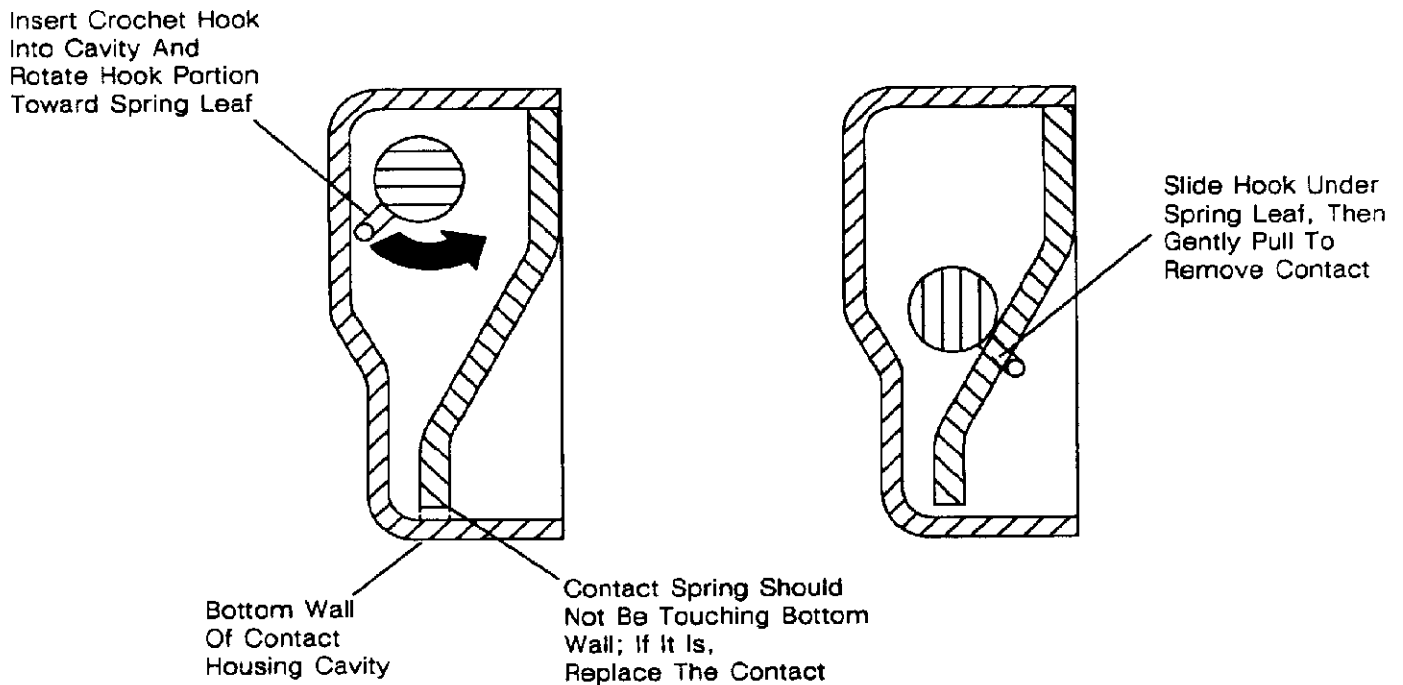
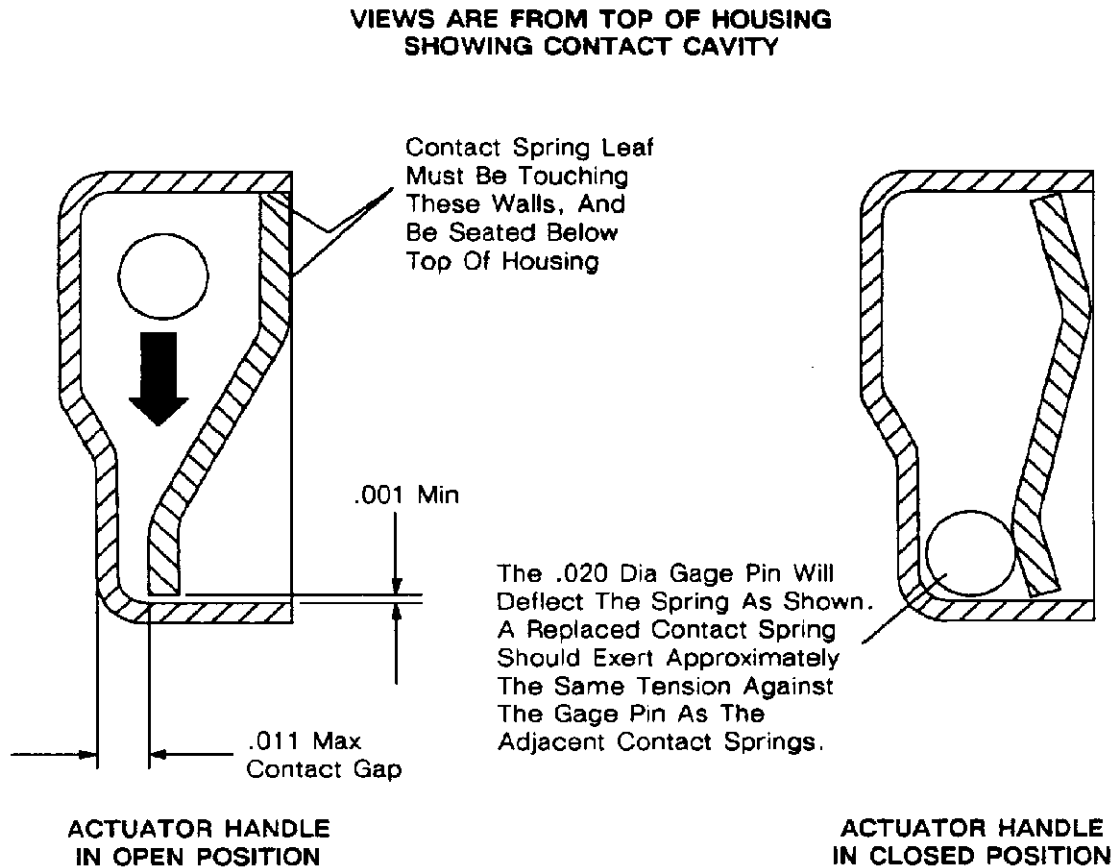

Fig. 6. Contact Removal
Fig. 8. Gaging Contact Spring Tension
With the socket cover removed inspect contacts for any that are touching the bottom wall of the housing contact cavity (See Figure 6). Also inspect for any which will not move freely when engaged by a .020 dia gage pin as shown in Figure 8, Page 11. Replace any contacts that fit into either of the above-mentioned categories. The following tools will be required:
3. Contacts which have been desoldered for removal can now be displaced from the socket by pushing against the solder tail tip with tweezers or similar tool. Push gently in a straight motion until the tail tip is flush with the bottom of the pc board. Then remove the contact from its housing cavity as shown in Figure 6, using a No. 13 or No. 14 crochet hook. Lift the contact gently so as not to break the top of the spring.
5. The top view of the contact in its cavity should look like the open position illustration in Figure 8:
- (1) Contact must be touching the side wall.
- (2) Contact should be touching the top wall but a small gap is permissible.
- (3) Contact should not be touching the bottom wall. A gap of .001 minimum must exist.
7. After soldering, engage the contact with a .020 dia gage pin as shown in Figure 8. The spring should move freely and have the same feel (exerting approximately the same tension against the pin) as the adjacent springs.